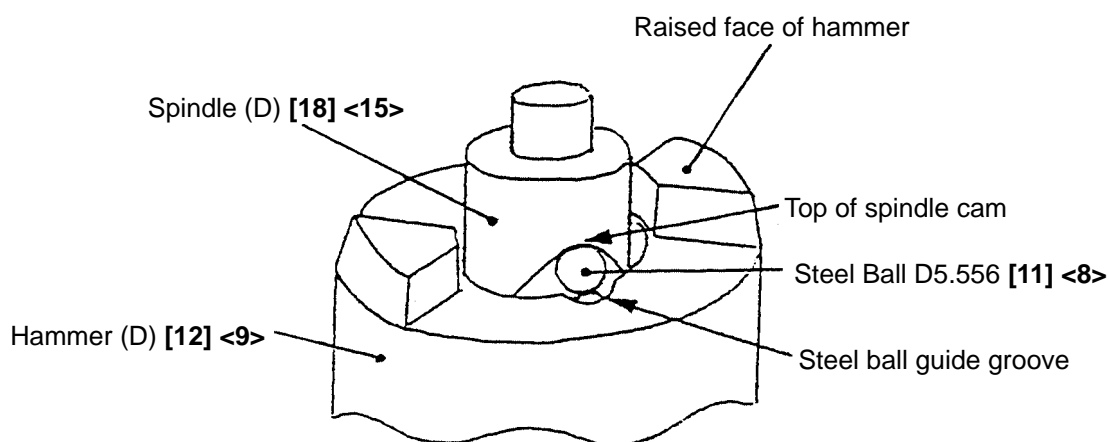

Fig. 3
(b) Align the top of the cam groove on Spindle (D) [18] <15> with the steel ball guide groove on Hammer (D) [12] <9> as illustrated in Fig. 3. Press down either of the raised faces of Hammer (D) [12] <9> with a hand press to compress Hammer Spring (D) [15] <12> until the end surface of Hammer (D) [12] <9> contacts Spindle (D) [18] <15>.
- (d) Mount the hammer assembly onto the J297 base for washer (S). With a hand press, push down the top of Spindle (D) [18] <15> to compress Hammer Spring (D) [15] <12>. On this condition, mount the Stopper [17] <14> onto the spindle shaft and then release the hand press.
(4) Mounting the hammer assembly to the housing